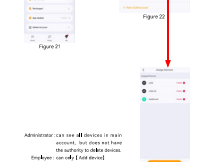

Figure 24
- Enter [4G / WIFI] to enter the device operation interface to recharge, click [] (as Figure 24).